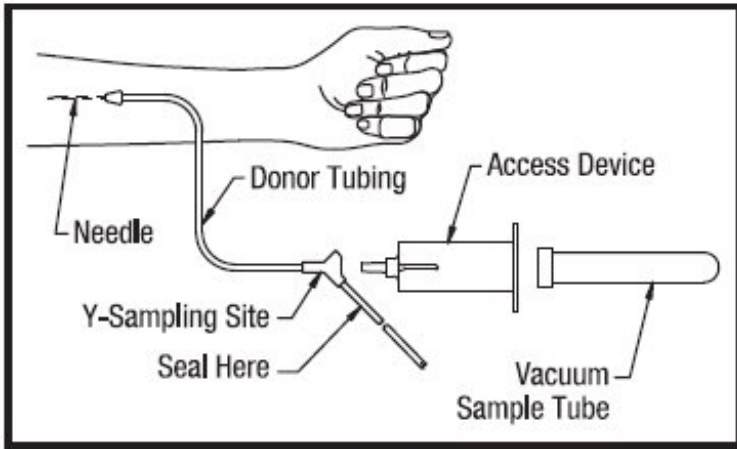

Figure 2
11. To collect samples, insert the access device by pushing firmly into the Y-Sampling Site until the membrane seal is penetrated (see Figure 2).